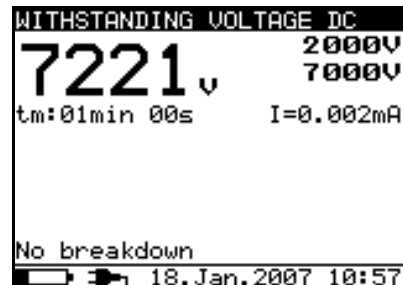

Fig. 44: Final screen withstanding test
6. Wait until the set timers run out or until breakdown occurs. The result of test is shown at display (see Fig. 44) with meaning of items described in Table 10